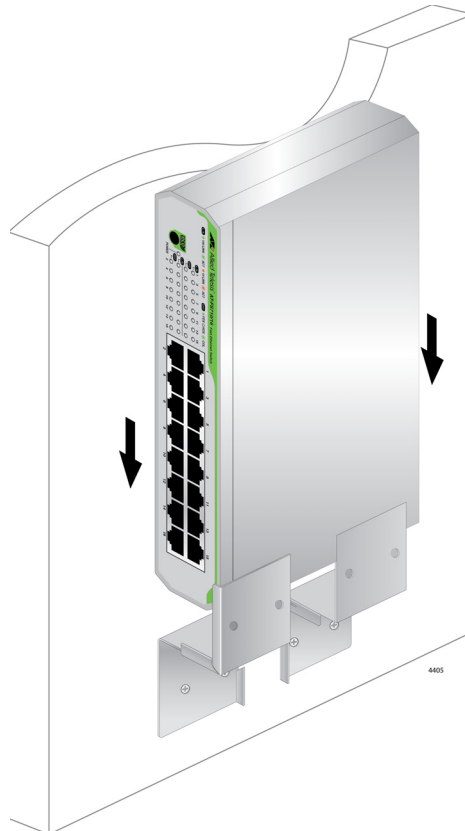

Figure 25. Placing the Switch into the Brackets
10. Slide the switch into the brackets on the wall as shown in Figure 25.